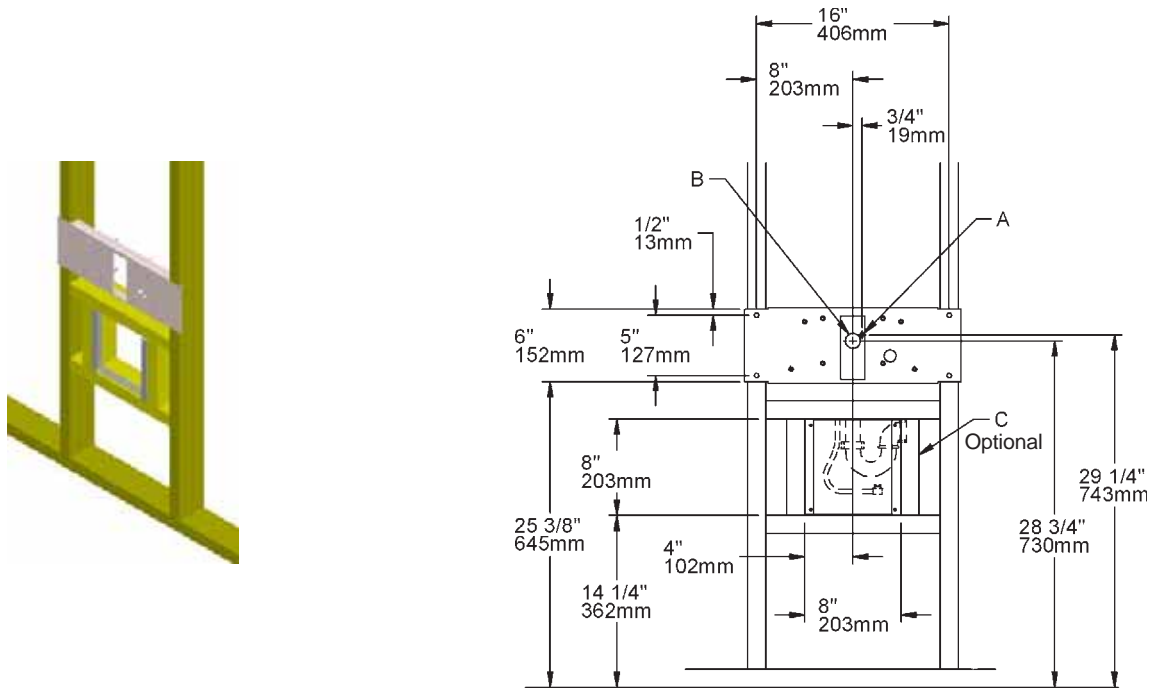

Figure 1 - Rough-in for EDFPB114C W/MP86 Mounting Plate
1. **Wall** should already be framed for the fountain using the positioning dimensions shown in Figure 1. Shown dimensions pertain to installation location (framing must support up to 300 lbs. weight). These dimensions are required for compliance with ANSI Standard A117.0.
2. **Install** rough-in plumbing as shown in Figure 1. Run supply water inlet line through the back panel. Install a service stop (not provided). Turn on supply water and flush thoroughly.